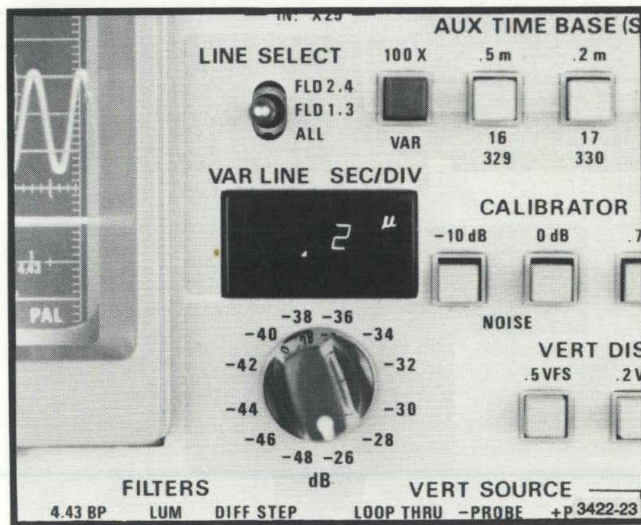

Fig. 3-24. Sweep Rate LED display.
3. If the horizontal magnifier is used, the sweep rate can be increased up to 200 ns. The selected sweep rate, including the effects of X100 and magnification, is directly indicated on the front panel by the LED readout (Fig. 3-24).